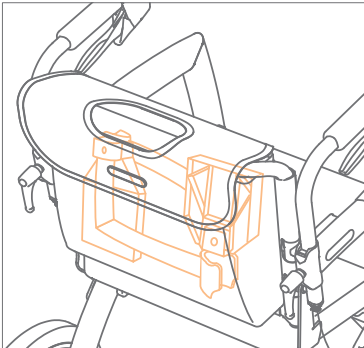

Figure 55: Storing footrests mirrored.
- a. Remove the footrests. Slide the footrests up until released from the footrest holders. Put them back into the bag of the Rollz wheelchair package, mirrored to each other (**Figure 55**).